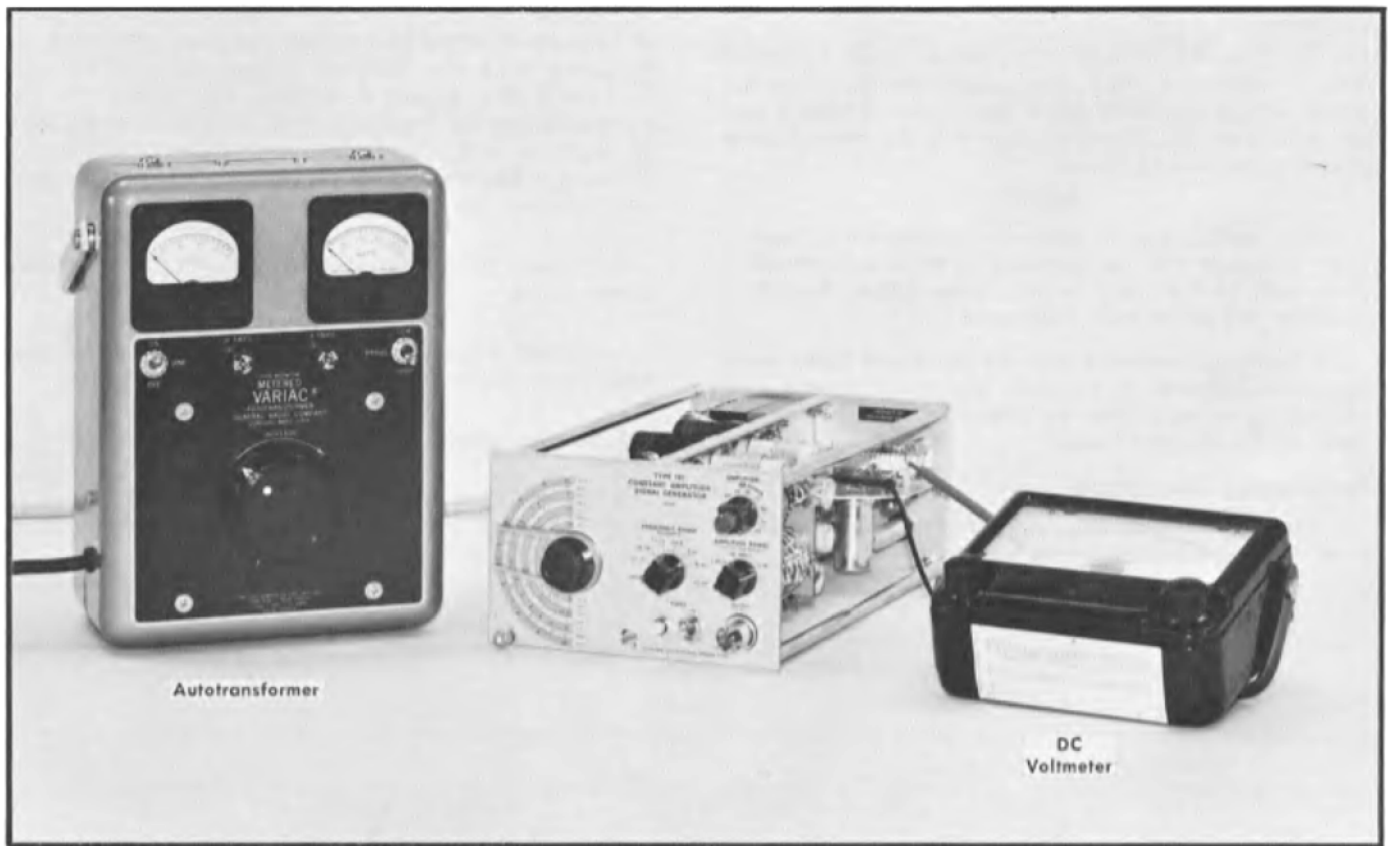

Fig. 6-3. Test equipment setup for steps 1 through 3.
**1. Adjust -11-Volt Power Supply** ❶
- a. Test equipment setup is shown in Fig. 6-3.
a. Test equipment setup is shown in Fig. 6-3.